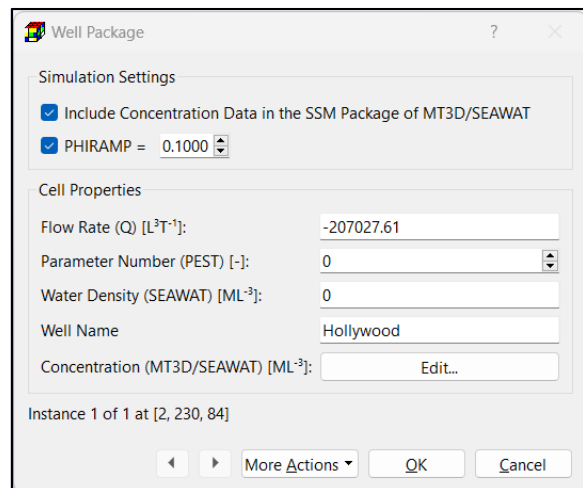

Figure 101. The Well Package dialog box for specifying cell properties
2. Cell-by-cell input method: Figure 101 shows the dialog box for specifying cell properties.
- **Flow Rate (Q) [L³T⁻¹]:** Negative values are used to indicate pumping wells, while positive cell values indicate injection wells. The injection or pumping rate of a well is independent of both the cell area and the hydraulic head in the cell. MODFLOW assumes that a well penetrates the full thickness of the cell. To simulate wells that penetrate more than one model layer with the WEL Package, a flow rate must be specified for each